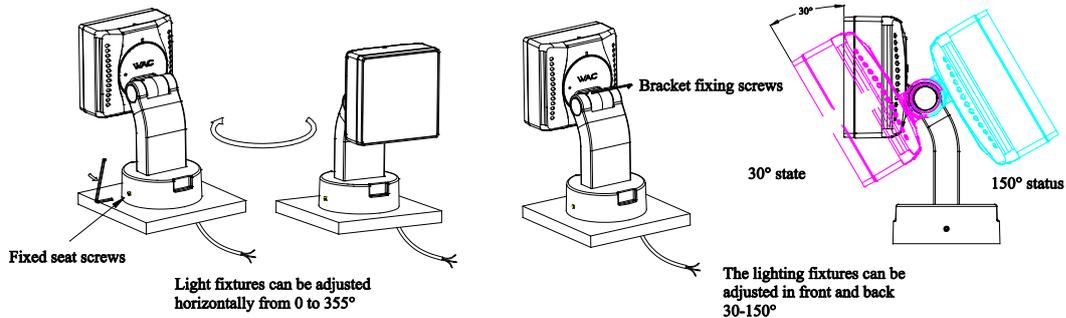

Figure 3
- Lamp angle adjustment: Loosen the fixing seat screw (tool 1.58mm hex wrench), the lamp can be adjusted horizontally from 0 ° to 330 ° (clockwise), loosen the fixing screw on the bracket (tool 1.58mm hex wrench), and the lamp can be adjusted back and forth from 30 ° to 150 ° (see Figure 3);